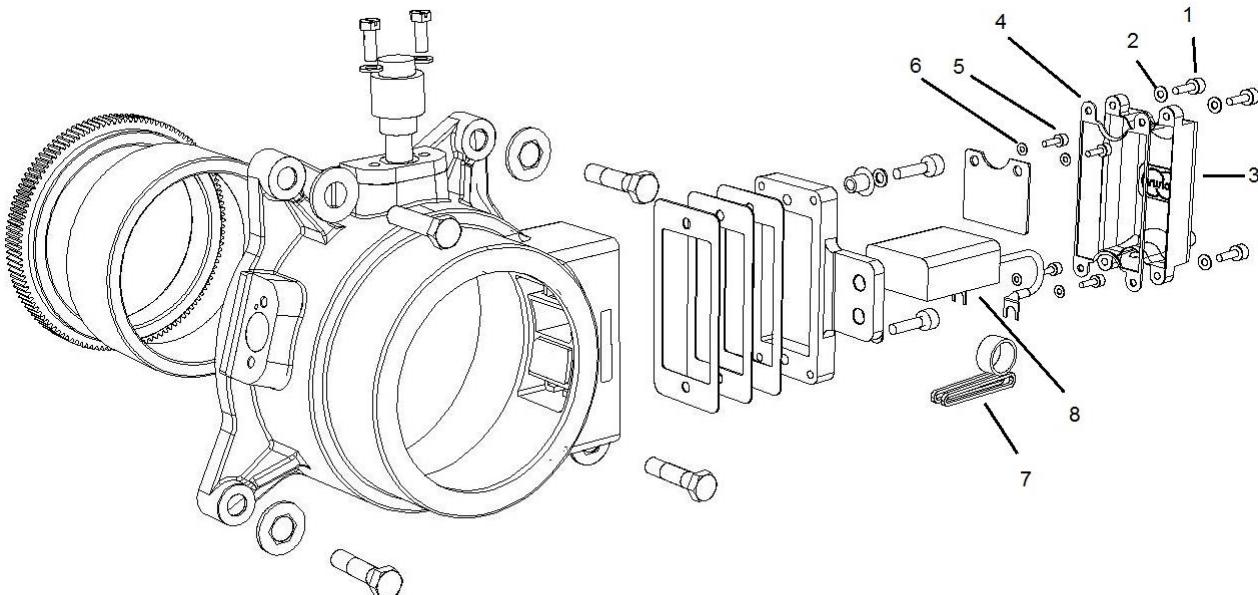

Figure 5-3: Trailer Axle Ground Brush Components
2. See Figure 5-3. Unscrew and remove the socket head cap screws (1) with a 6 mm hex key. Remove all four screws.